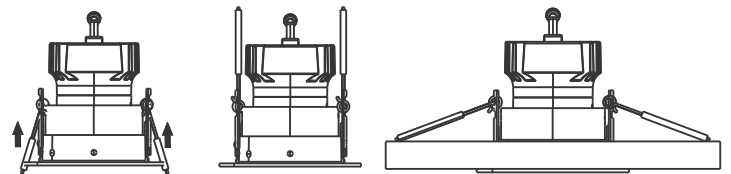

Fig. 4
Step 5. Push the clips on the trim until they are in the vertical "up" position. Release the clips as you insert the trim into the ceiling. **Fig. 4**